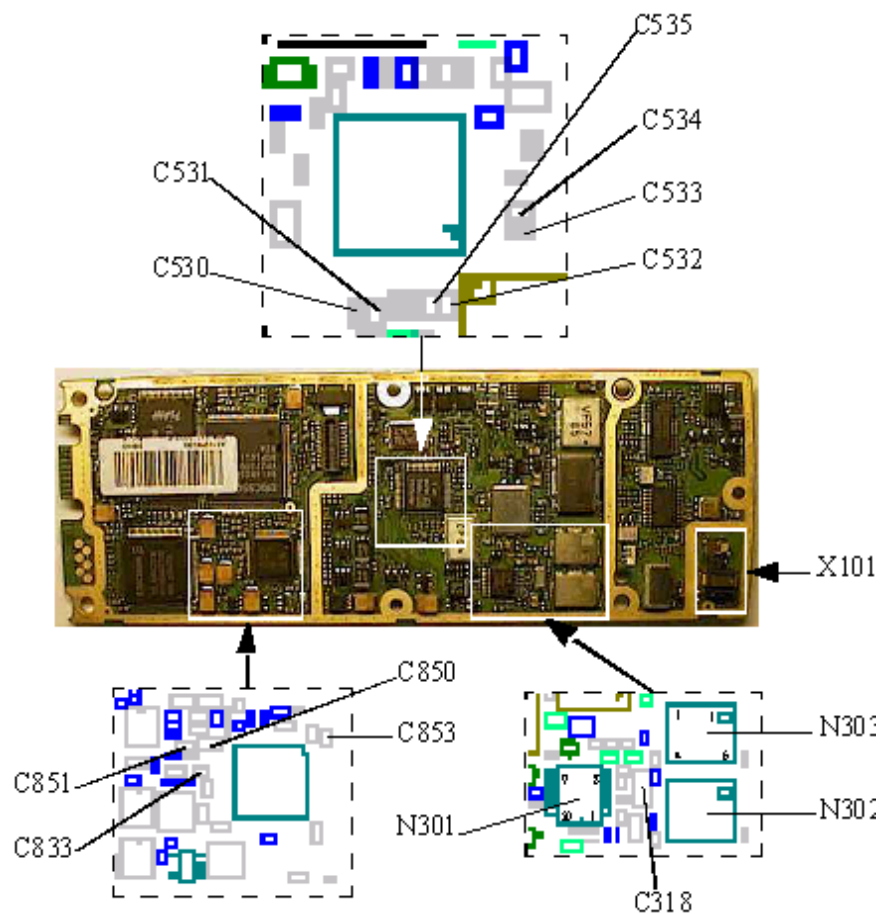
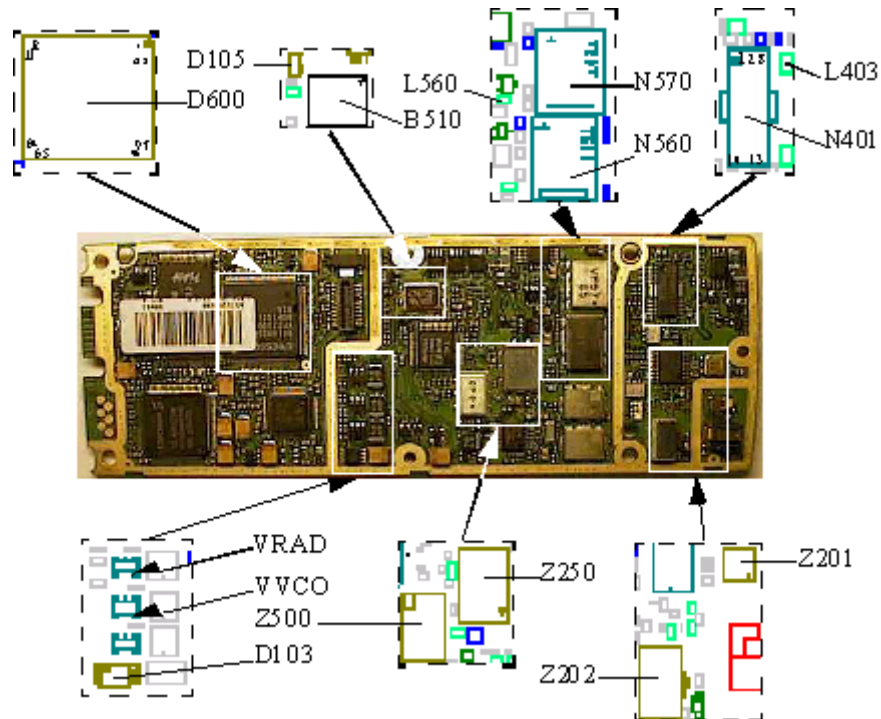
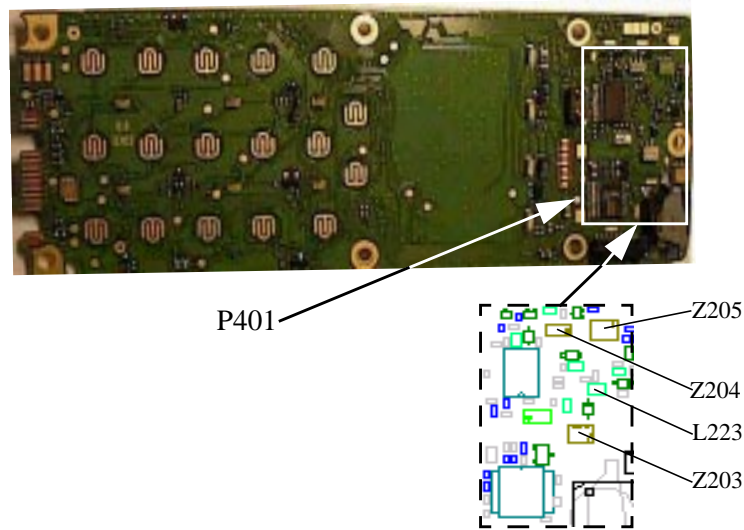

Fig. 2.1
Fig. 2.2
Fig. 2.3
Make sure the antenna connector (X101, class A, fig. 2.1) isn't damaged, badly soldered or dirty (glue, varnish, oxide...).
Check for bad solderings at C318 (class A), N302 (class B) and N303 (class B, all in fig. 2.1).
Measure the resistances of C530 - C535 (all six of class A, >200 kohms and in fig. 2.1)
Measure the resistances of C850 (>100 kohms, class A, fig. 2.1), C851 (>1 kohms, class A, fig. 2.1), C833 (>1 kohms, class A, fig. 2.1) and C853 (>100 kohms, class A, fig. 2.1).
Measure the voltages of VVCO and VRAD (~3.8V, fig. 2.2).
Measure the DC voltage at pin 4 and 6 of N303 (fig. 2.1). The voltage at pin 4 (control voltage) should always vary between 0.8-2.8V (usually starts at 1.7V). The voltage at pin 6 (feed voltage) should also vary but usually starts at 3.3V.
- If the feed voltage is incorrect (usually missing), check the solderings at pins 8 and 102 of D600 (fig. 2.2). Also, check the solderings at D103 and 105 (fig. 2.2).
- * If they're correct, replace N301 (class B, fig. 2.1).
Check the solderings at Z250, Z500, Z201 (GSM900), Z202 (GSM1800, all in fig. 2.2) and Z205 (fig. 2.3).
- If channel 1 (or several of the lower channels) is the only channel you can't connect a call at, it's the N570 that's broken (class D2, fig. 2.2).
Measure the resistance from the P401 (fig. 2.3) test point to ground (>10 kohms, alternatively from N401 pin 14 to ground).
Check the solderings at N560 (GSM1800) and N570 (GSM900, fig. 2.2).
Check the solderings at Z205, Z203 (GSM900) and Z204 (GSM1800, all three class B and in fig. 2.3).
Make sure L403 (class A, fig. 2.2) isn't burnt.
Measure the resistances of C853 (>100 kohms, class A, fig. 2.1), L560 (~0 ohms, class A, fig. 2.2) and L223 (~0 ohms, class A, fig. 2.3).
* If it isn't, replace D600 (class B, fig. 2.2).
If the phone can't connect a call at channel 1 (or at another of the lower channels) (GSM900) but at other higher channels or if it can't switch from a high channel to channel 1 (or another of the lower channels) it means that N570 (class D1, fig. 2.2) is broken.
Measure the resistances of C530-C535 (>200 kohms, all of class A, fig. 2.1). Check the solderings at Z250, Z500, Z201 (GSM900), Z202 (GSM1800, all in fig. 2.2) and Z205 (fig. 2.3).
- If the output power is too low, check the solderings of N560 (GSM1800) and N570 (GSM900, both in fig. 2.2). Also check the solderings at Z205, Z203 (GSM900) and Z204 (GSM1800, all in fig. 2.3).